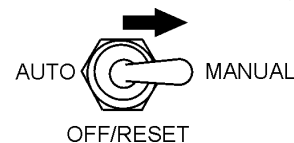

Figure 76. Auto-Off/Reset Manual Switch (Manual Position)
- Next, place the Auto Start/Stop Switch (Figure 76) to the "Manual" position to start the engine.